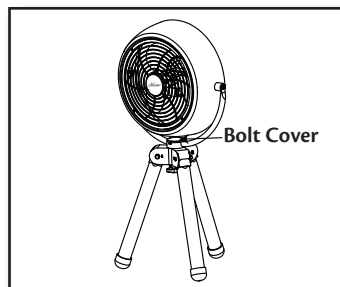

Figure 7
4. Place the bolt cover back onto the tripod. (Figure 7)